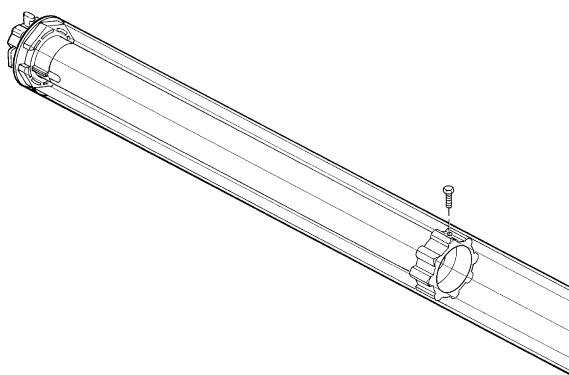

Fig. 5
5. Secure drive wheel **[D]** to the roller tube by means of an M4x10 screw in such a way as to prevent axial movement of the motor (figure 5).